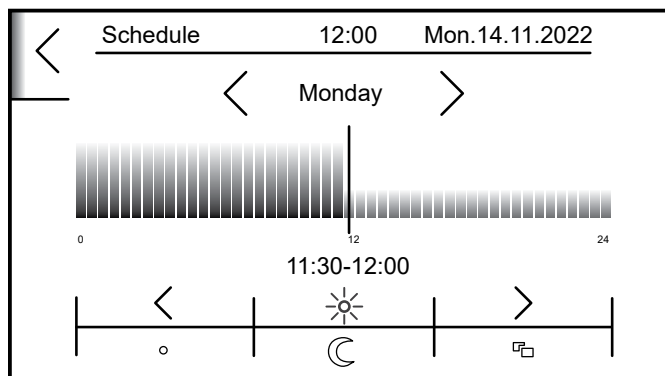

Figure 7-6: Heating time schedule interface
3. Modify the day if different to current by tapping navigation arrow. Refer to Figure 7-6.